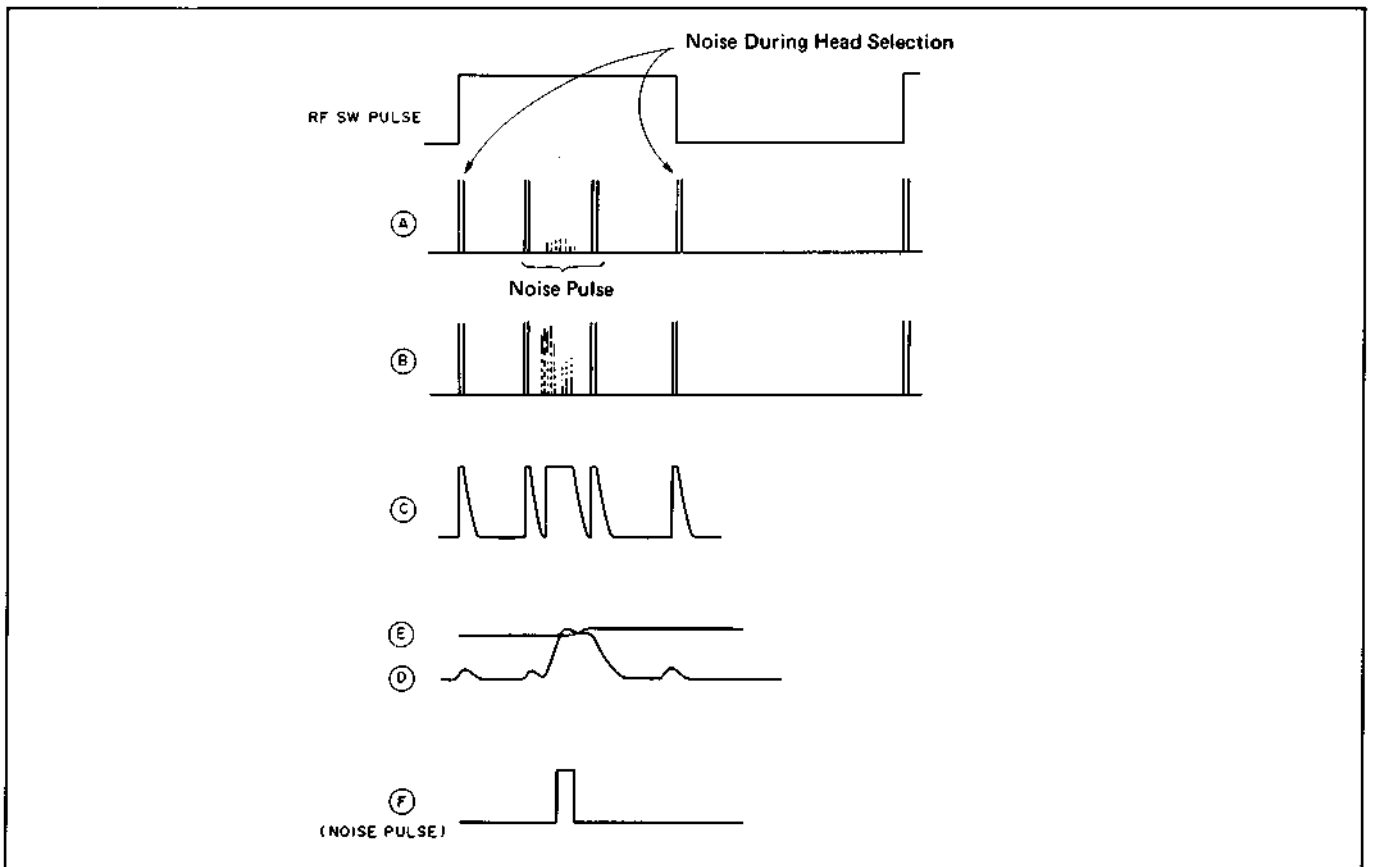

Fig. 2-9 Noise Pulse Detection Timing Chart
The DOC PULSE (See Fig. 2-9 (A)) from the YC-31 Board is compared in IC604 with the fixed voltage. (See Fig. 2-9 (B)). This signal is input to a pulse stretcher circuit which charges quickly, but discharges slowly, to expand the pulse width. (See Fig. 2-9 (C)). This output is input to L.P.F for integration. (See Fig. 2-9 (D)). The output is fed to the pulse stretcher circuit and L.P.F to distinguish between the pulse generated when the playback RF signal is switch-
ed and that generated by noise, using an RF SW PULSE. Next, this output signal is divided into two parts. One part is input to the positive input of the comparator, and the other, to the negative input of the comparator through the peak hold circuit. The peak hold output (See Fig. 2-9 (E)) is used as a comparison voltage, instead of the fixed voltage, in order to suppress variations of the output pulse width by level variations of the integrated waveform (See Fig. 2-9 (D)) by the L.P.F.
By this, the comparator output (Pin (7) of IC604) becomes a pulse with a certain width as shown by (F) in Fig. 2-9. This pulse is input to pin (73) of the microcomputer (IC 601) as a noise pulse.